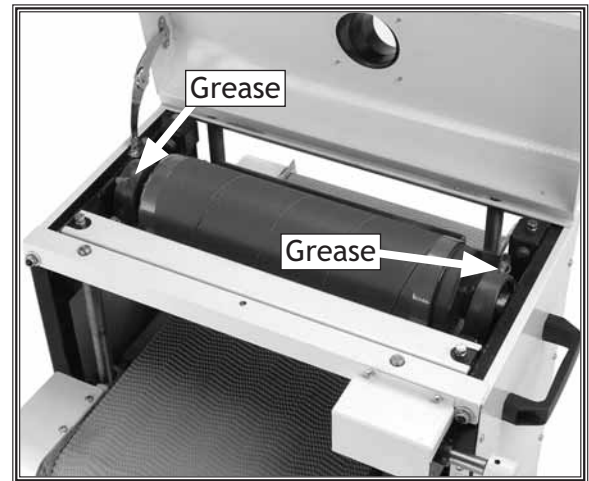

Figure 14. Pillow bearing lubrication.
- **Pillow Block Bearings:** Must be lubricated every 20 hours of operation. Use two pumps of a high-quality, lithium-based grease. A grease fitting (Figure 14) is located on the top of each pillow block bearing.